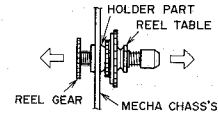

Fig. 3-6
- 1) Pull up the REEL TABLE and REEL GEAR in the direction of the two arrows (→) as shown in Fig. 3-6.